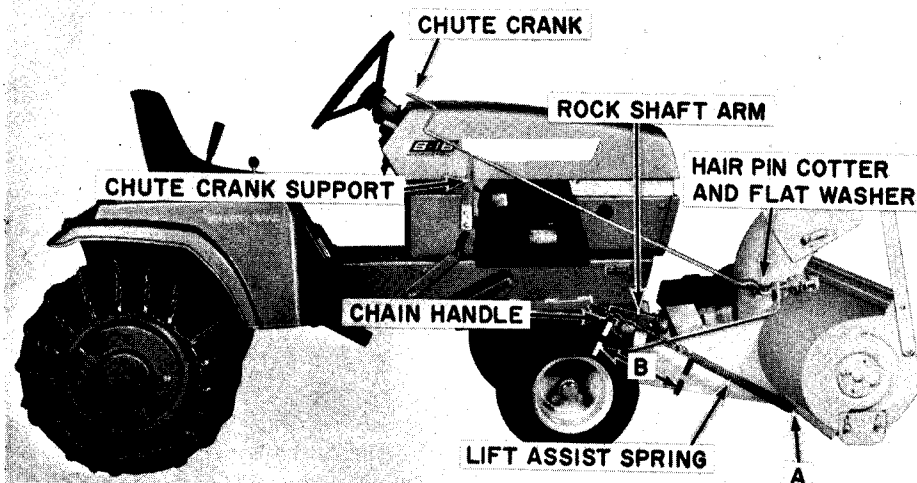
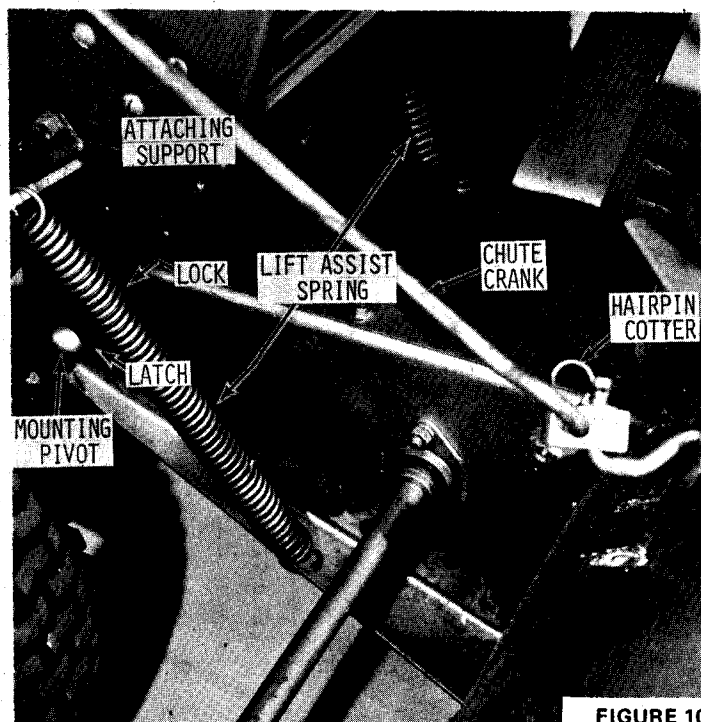

FIGURE 6
FIGURE 10
2. Secure the drift cutters, Figure 6, to the auger housing with 3/8" x 3/4" capscrews, lockwashers and nuts.
3. Install the skid shoes as shown in Figure 6. Install each shoe at the same height. Secure with 3/8" x 1" carriage bolts, flat washers, lockwashers and nuts. Place flat washers next to the slots.
4. Insert chute crank through the hole in the chute crank support, (Figure 6) and insert opposite end into universal joint on the snow head, Figure 10. Secure with hairpin cotter.
5. Remove front running board support mounting hardware on the right side of the tractor. Position chute crank support as shown in Figure 6. Secure with 3/8" x 1 1/4" capscrews, lockwashers and nuts.
1. Place sno-thro mounting, pivots in the tractor saddle brackets and secure with the latches and locks, Figure 10.
3. Attach lift assist springs as shown in Figures 6 and 10. **NOTE:** The springs can be attached to the sno-thro frame in any of three different mounting holes. The front hole provides maximum flotation and easiest lifting of the sno-thro. The rear hole provides
4. Insert chute crank through the hole in the chute crank support. Figure 6, and insert the opposite end through the universal joint on the snow head, Figure 10, and secure with a hair pin cotter.